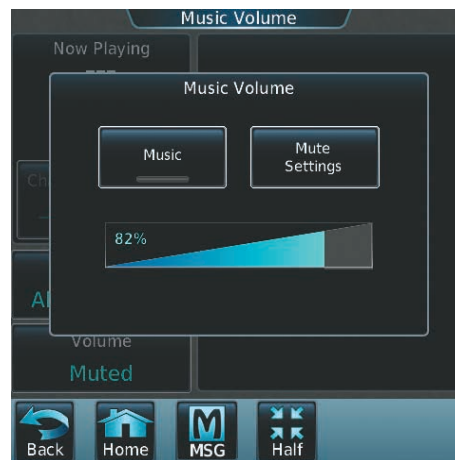

Figure 8-44 Adjusting Volume
- 2) The volume adjustment slider is displayed as shown in Figure 8-44.